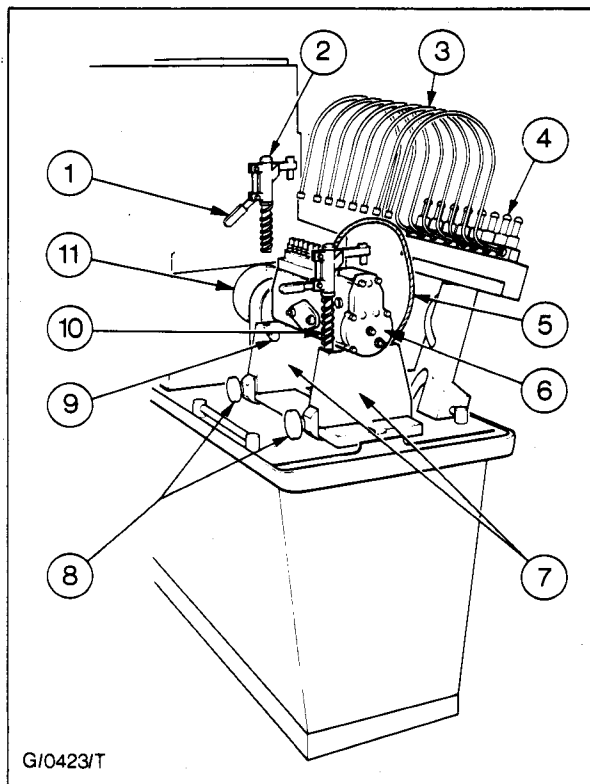

Fig. 10 - Injection Pump Mounted on Stand - 8 Cylinder Pump Illustrated
2. Using the special mounting brackets and drive couplings available from the test stand manufacturer to suit each type of pump, mount the pump on the test stand and couple up the drive. (Fig. 10).